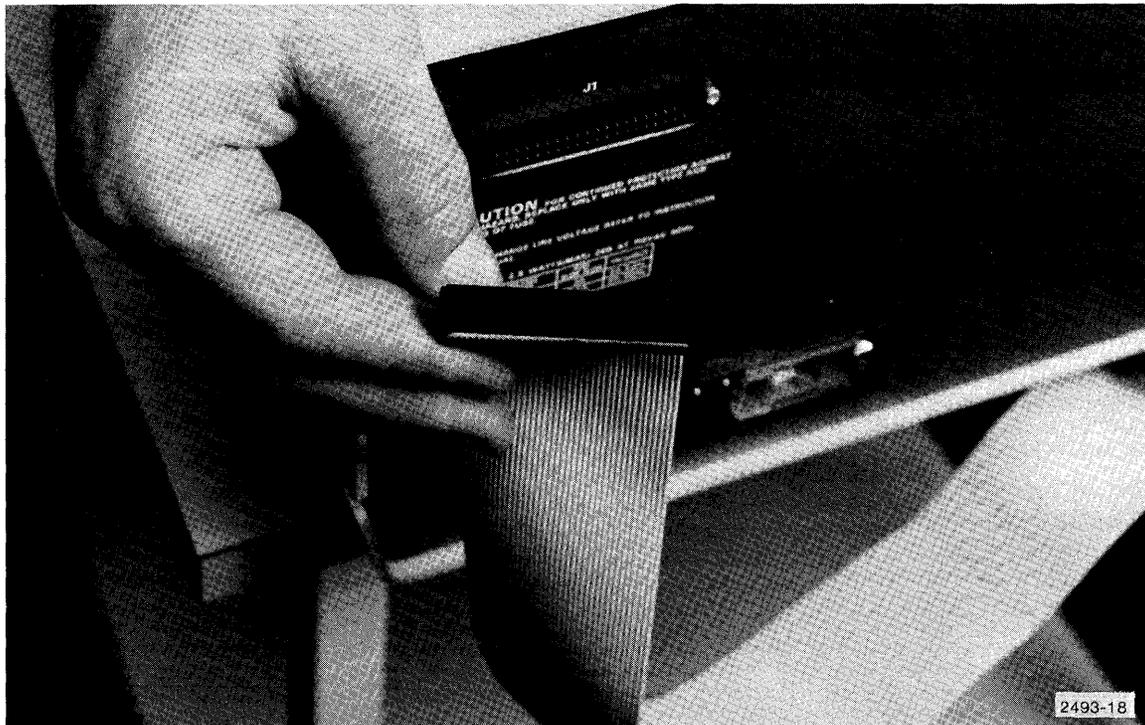

Figure 5-5. Attaching ribbon cable to J-1.
- i. Attach free end of ribbon cable to connector J-1 on rear of 4907F30 cabinet (Figure 5-5) with pin 1 to the left as seen from the rear.